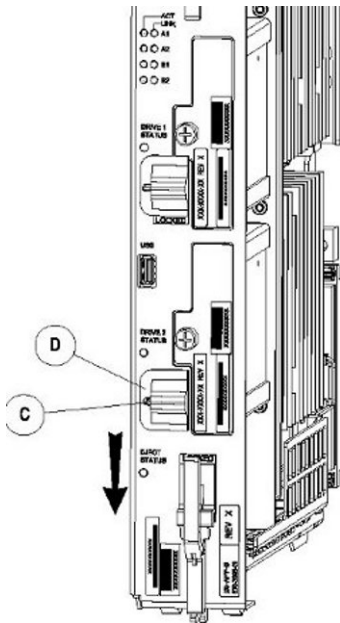
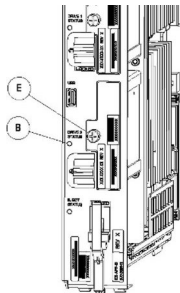

Figure 48: Drive Module UNLOCKED
Figure 49: Drive Module Status
2. Move drive module locking switch (D) from the LOCKED to the unlocked position and wait for the LED (B) to indicate a steady red state. See Figure 48: Drive Module UNLOCKED and Figure 49: Drive Module Status, respectively.
4. Loosen the drive module screw (E) (see Figure 49: Drive Module Status).